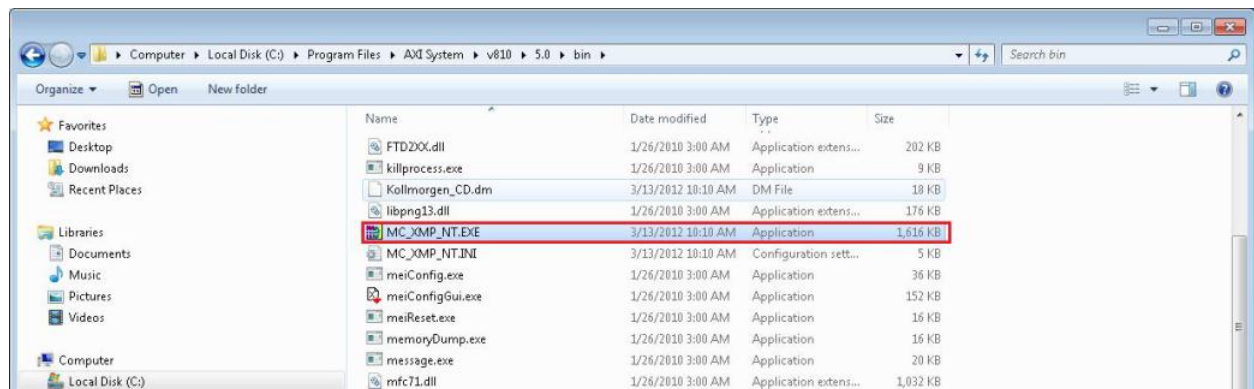

Figure 11 MC_XMP_NT.EXE
22. Go to the following directory: C:\Program Files\AXI System\v810\REV\bin and open the MC_XMP_NT.EXE as shown in Figure 11.